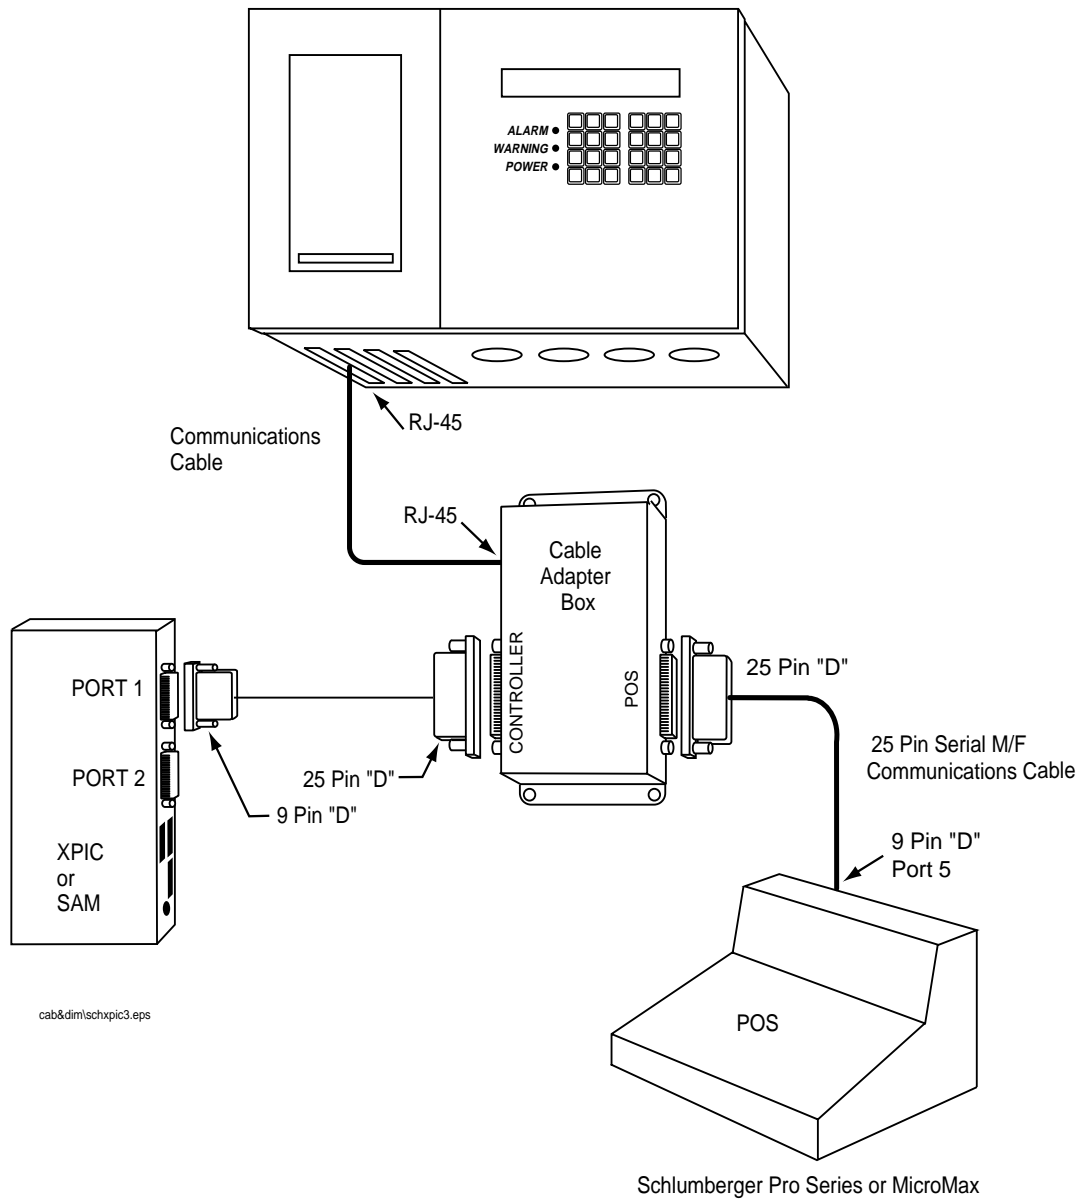

Figure 7. Pro Series or MicroMax POS with SAM or XPIC Controller Box and RS-232 Cable Adapter Box Interface
1. Complete all fueling transactions in process. Do not start any new transactions until the following connections are made (see Figure 7 on page 15).